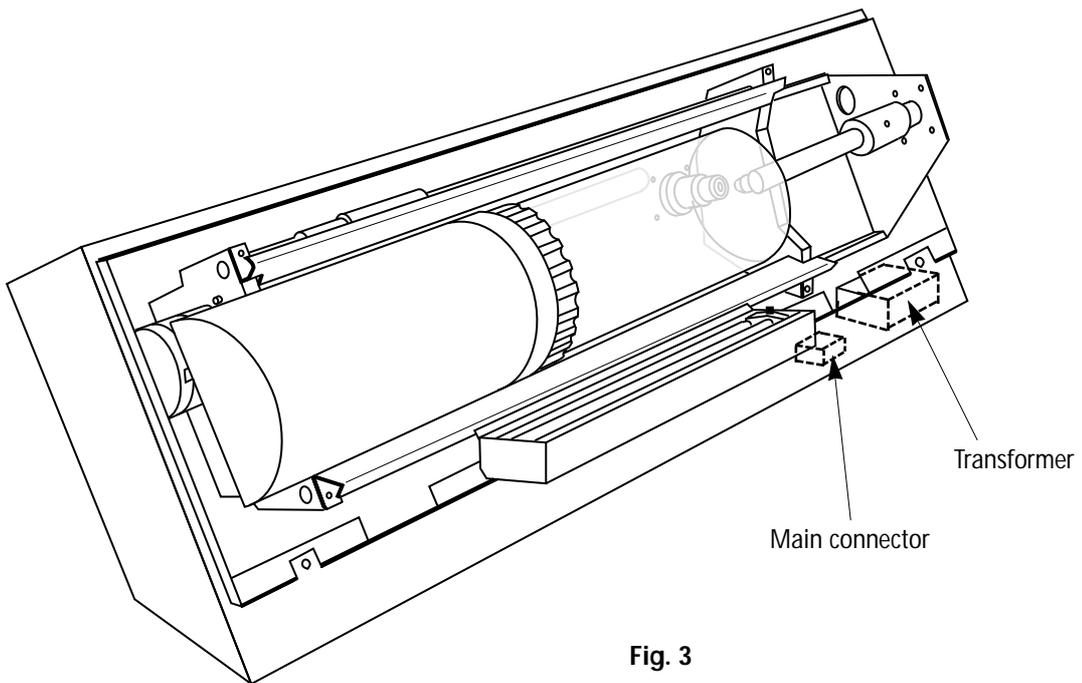

Fig. 3
- 2 • Remove the two 3 mm allen screws from the main connector, (see fig. 3).